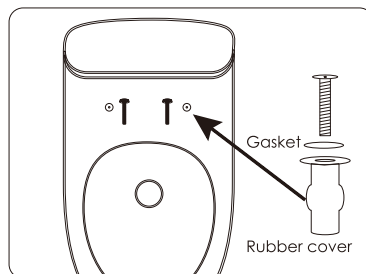

Fig.1
1). Remove the old toilet bidet and clean the toilet. Unscrew the expansion screws from the rubber cover and place the rubber into the toilet seat holder (Fig.1).